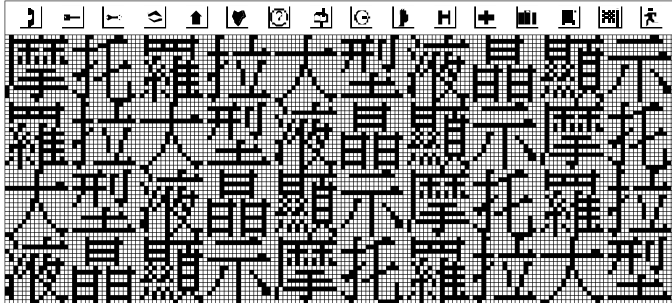
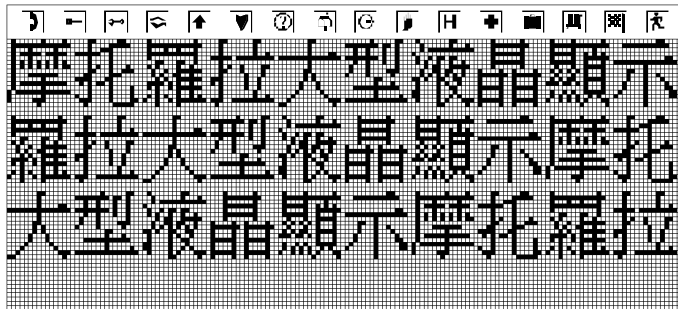

Figure 8a: Content in GDDRAM
Figure 8b: 3-line Chinese character mode
This command is used to select the Graphic display mode with different Mux from 2 Mux to 65 Mux or the Chinese character display mode with different character line from 1 line to 3 lines. Figure 8a & 8b in the section "Display Output Description" show the 65 Mux Graphic display mode and 3-line Chinese character display mode respectively.
1. Row(0) - Row(Mux ratio-2) of GDDRAM mapped to COM(first display row location) - COM(first display row location+Mux ratio-2). Example is illustrated in figure 8b, the first display row location is COM0 and the Mux ratio is 53, then Row0 of GDDRAM will be mapped to COM0, Row1 through Row 51 of GDDRAM will be mapped to COM1 to COM51.
This is an example of output pattern on the LCD panel. Figure 8a shows the content in GDDRAM and Figure 8b - 8h illustrate the output patterns on the LCD display with a sequence of commands:
- 1) Set 3-line Chinese character display mode shown in Figure 8b,